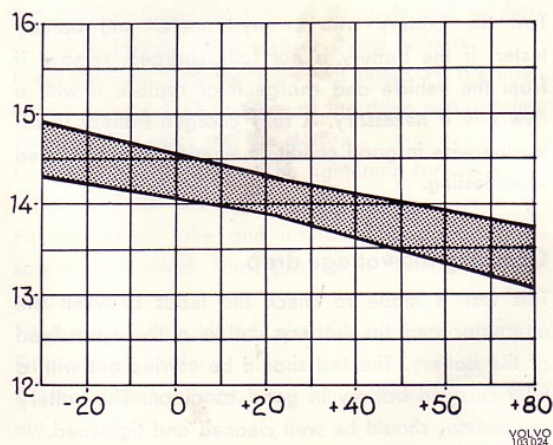

Fig. 26. Voltage-temperature diagram for warm voltage regulator
N.B. The vehicle **must be** driven. It is not sufficient that the vehicle is standing still with the engine idling. Immediately afterwards, or even while driving the vehicle, measure the voltage between B + and D — on the alternator. When measuring, the engine should be at a speed of about 2500 r.p.m. With the regulator ambient temperature about 25° C (77° F) the voltage should be 13.85—14.25 volts. Where the temperature is otherwise, see Fig. 26.